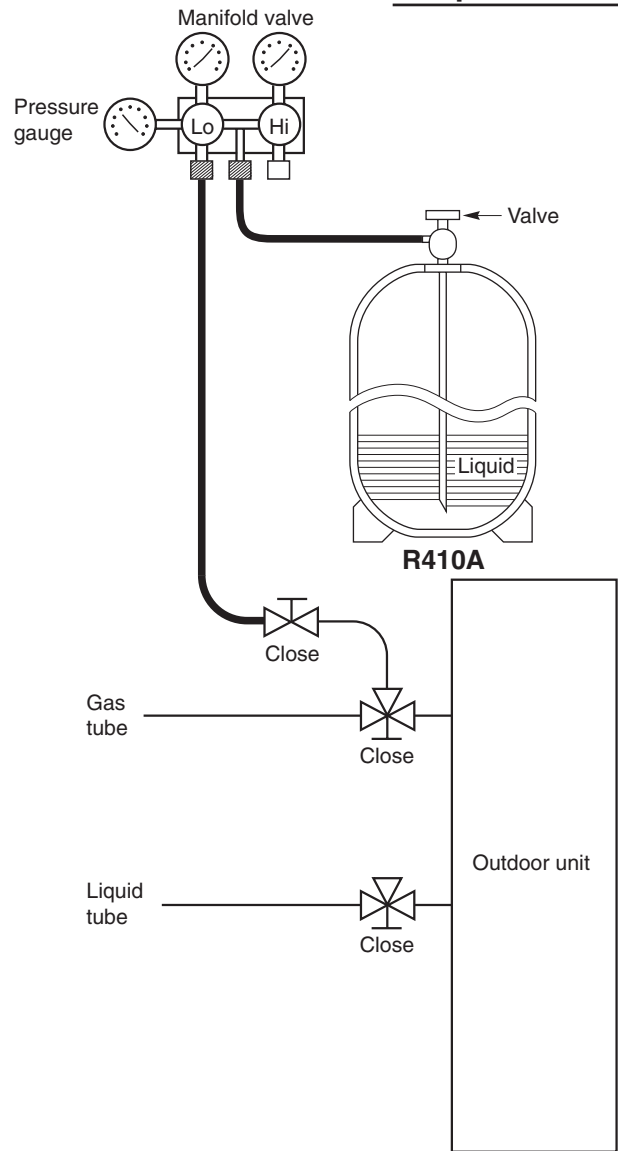

Fig. 1-30
- Charging additional refrigerant (calculated from the liquid tube length as shown in Section "1-13. Installation Instructions, 1. Tubing Size, Table 1-4 Tubing Data for Models", Amount of additional refrigerant charge) using the liquid tube service valve. (Fig. 1-30)